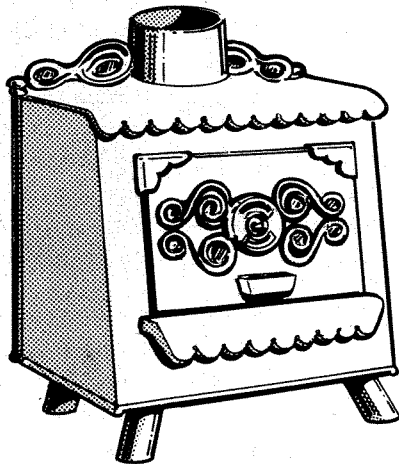

Fig. 48. Earth Stove Model 101.
26. **Roy F. Smith, Licenser** (distributor), P.O. Box 8, 19440 S.W. Boones Ferry Rd., Tualatin, OR 97062. In the Earth Stove (Fig. 48 and Table 5), both primary and secondary air are preheated, the secondary air through small draft tubes. Both are controlled by thermostatically operated draft. The Earth Stove is ICBO-listed. The door is fitted with an original ceramic motif.